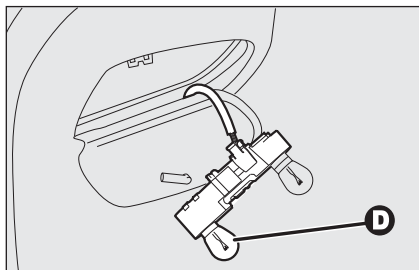

fig. 35
- remove and replace the burnt-out bulb by pressing it slightly and turning it counterclockwise **fig. 35**;